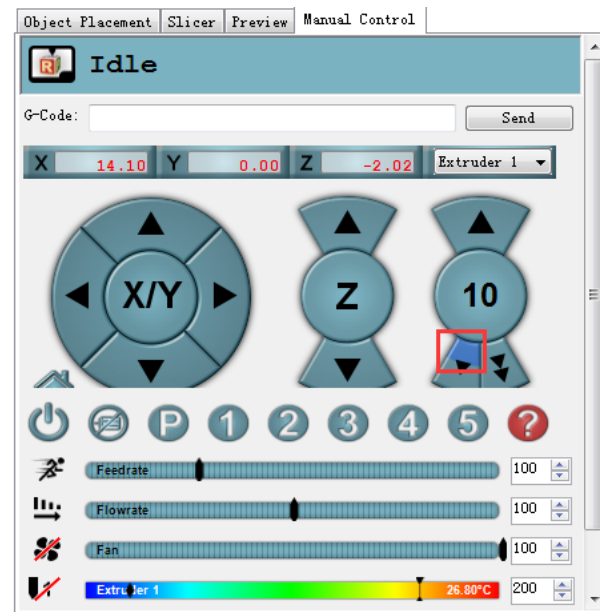

Figure 5.93 Extrude filament
2. Click the extruder feeder when the heating temperature is up to 200°C and feed up to 10mm-30mm, as shown in Figure 5.93.